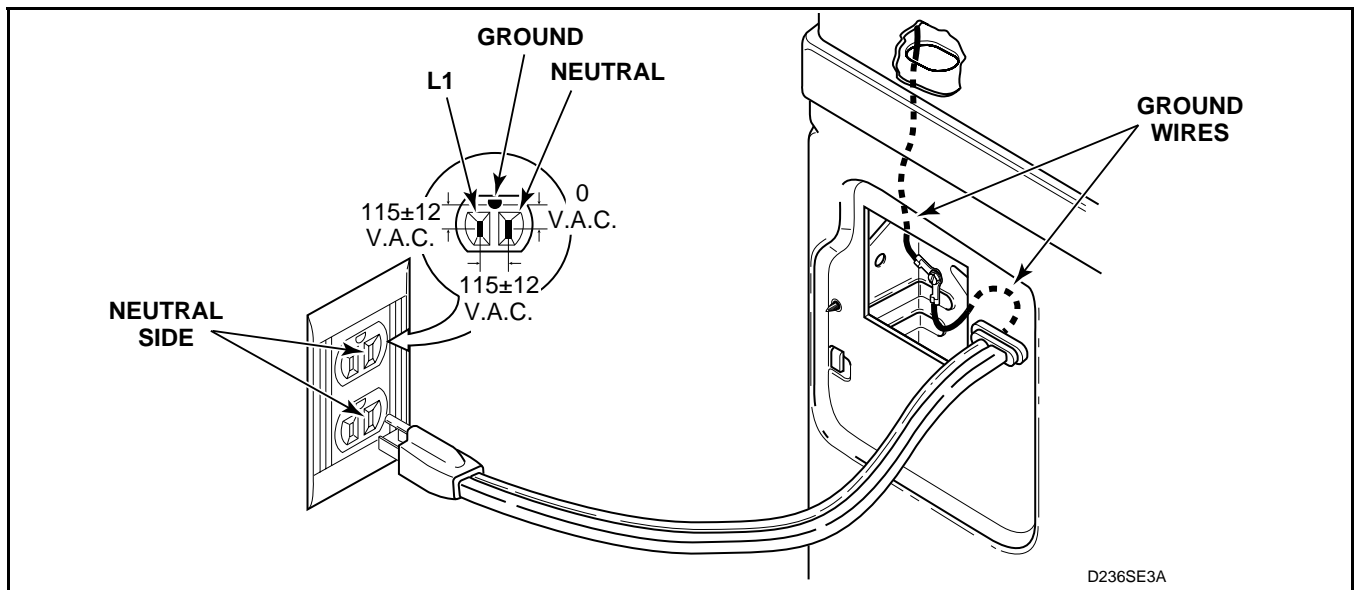

Figure 4
16. GROUND WIRES FROM POWER CORD TO REAR BULKHEAD AND FROM REAR BULKHEAD TO CONTROL HOUSING. CHECK WALL RECEPTACLE POLARITY (Gas Models Only) (Figure 4).